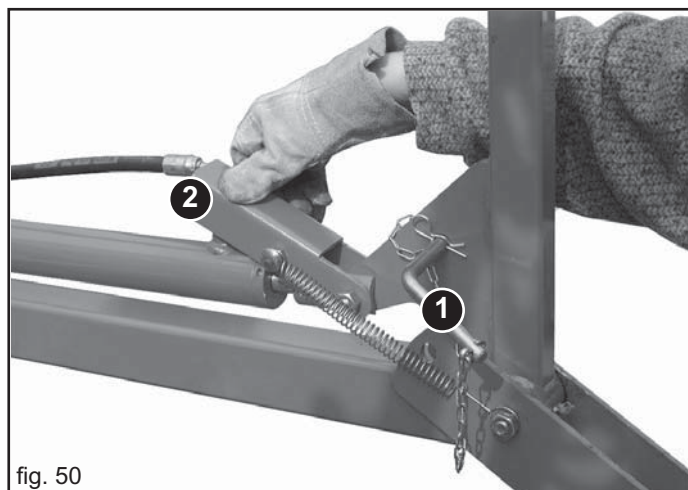

fig. 50
- 2) Release the securing bolts, put them in the place provided (1, Fig. 50) and lower the clamp along the cylinder (2, Fig. 50).